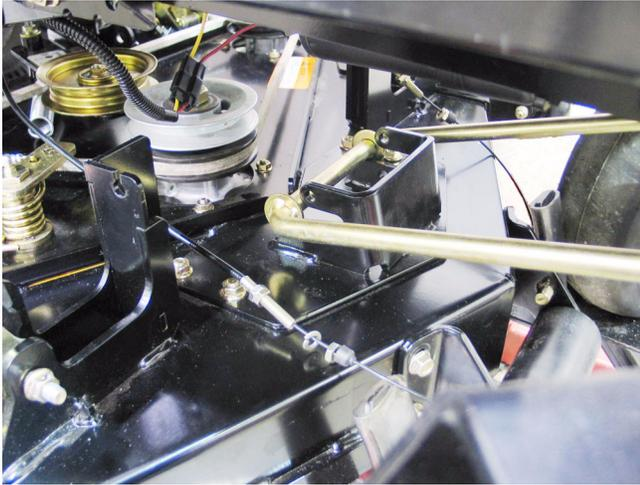

Figure 8.12
- 8.12. Move the deck forward to disengage the front deck lift bar from the hooks on the front of the deck. See Figure 8.12.